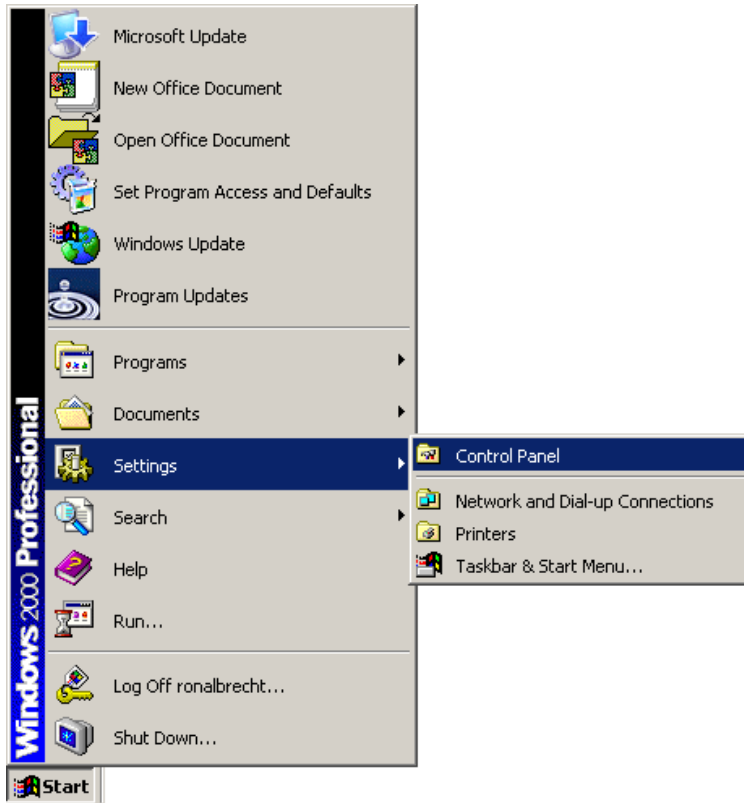

Figure 7-12: Windows Control Panel
Step 1: Open **Windows Control Panel** (Figure 7-12).